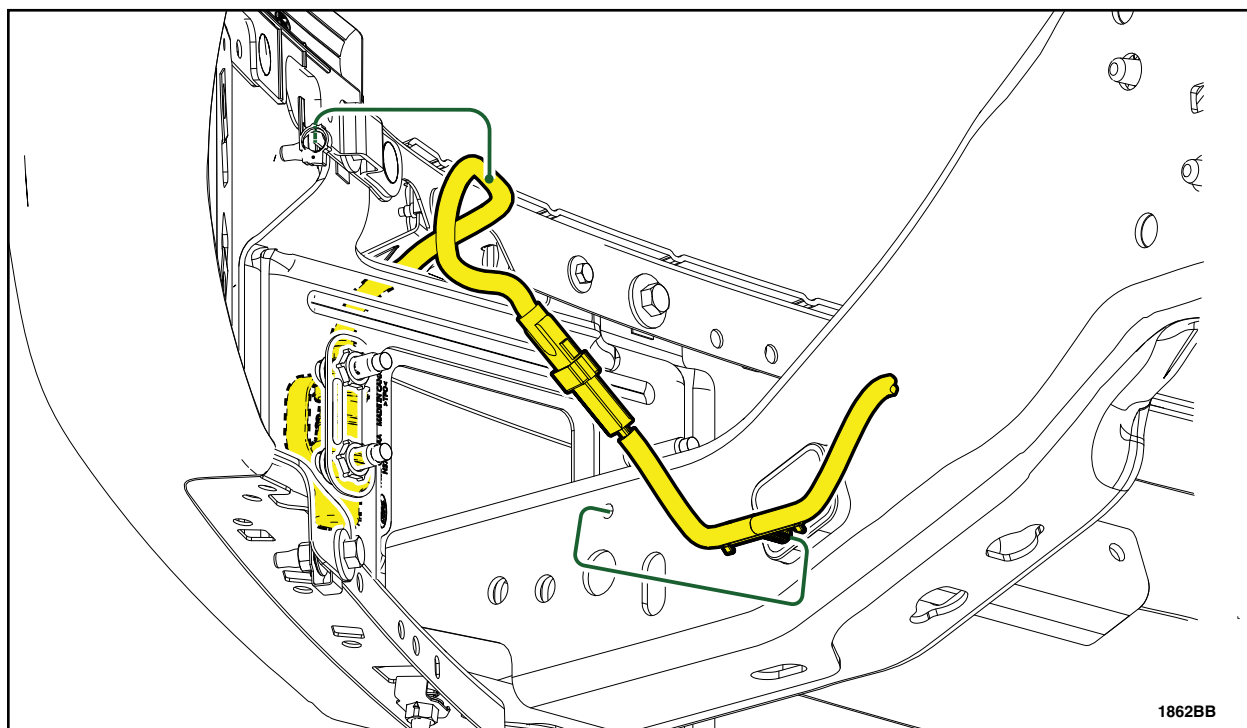

FIGURE 2c
4. Connect the wire assembly in-line connector. See Figure 2c.